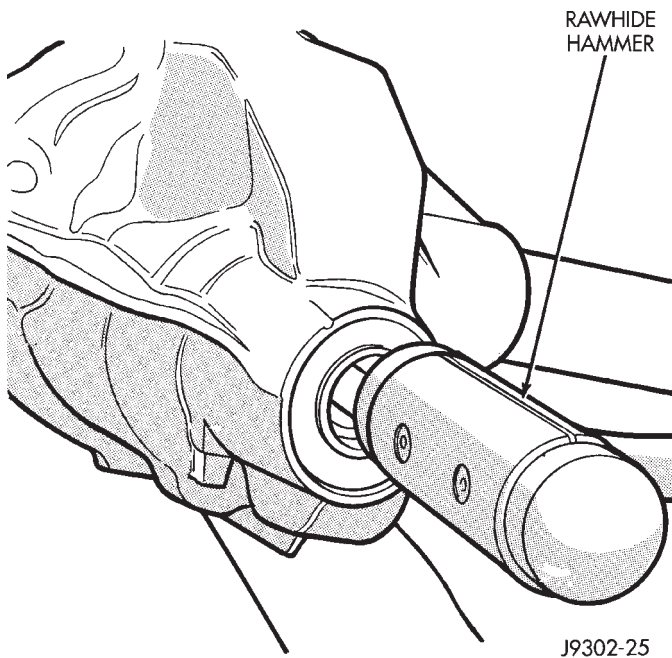
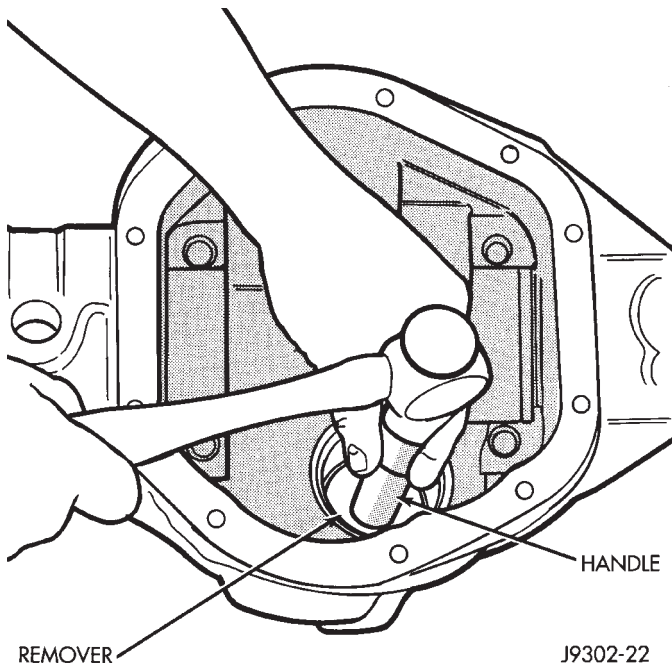

Fig. 17 Remove Pinion Gear
Fig. 18 Front Bearing Cup Removal
(2) Remove the pinion gear from housing (Fig. 17). Catch the pinion with your hand to prevent it from falling and being damaged.
(3) Remove the pinion gear seal with a slide hammer or pry out with bar.
(4) Remove oil slinger, front bearing.
(5) Remove the front pinion bearing cup and seal with Remover D-147 and Handle C-4171 (Fig. 18).